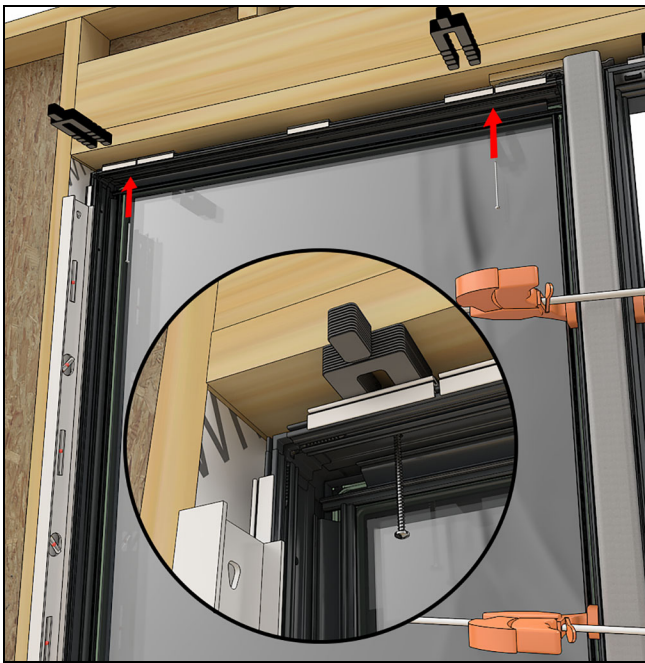

Figure 237
17. Making sure the second frame is aligned along the correct exterior plane, shim and fasten the head jamb through the pre-drilled holes in the frame. See Figure 237.